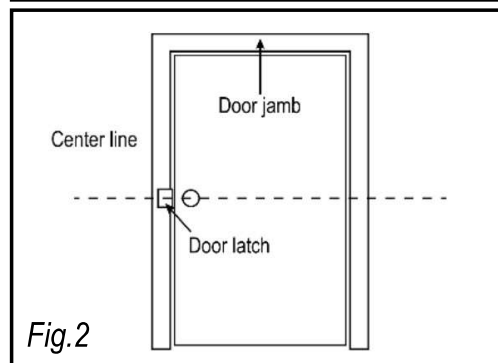

Fig.2
2. Measure the center line (see fig. 2).